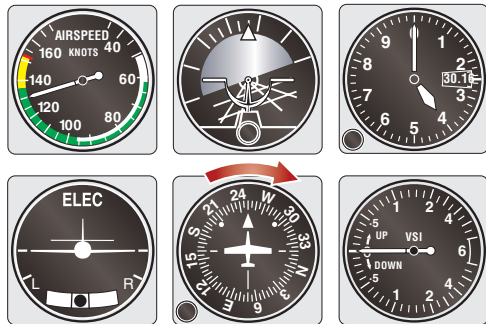

Figure 29-27 Question 15.
15. Interpret the flight attitude in figure 29-27.